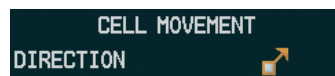

Figure 6-21 Cell Movement Legend
- 2) Press the **NEXRAD** Softkey (CEL MOV Softkey on the Weather Data Link (XM) Page). For Cell Movement to be displayed on maps other than the Weather Data Link (XM) Page, Cell Movement must be turned on in the Navigation Map Setup Menu (see the procedure "Setting up and customizing weather data for the Navigation Map Page").
To display the Cell Movement legend on the Weather Data Link (XM) Page, (Figure 6-21), press the **LEGEND** Softkey when Cell Movement is selected for display.